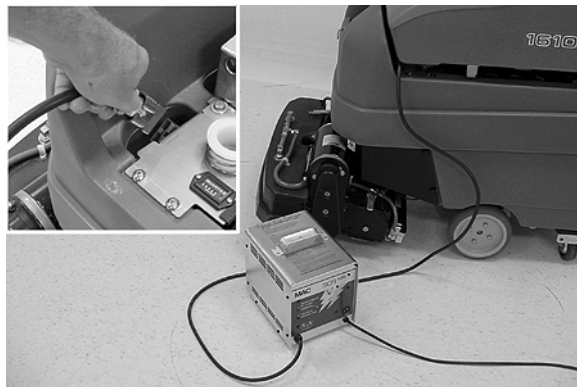

FIG. 31
6. Recharge the batteries (Figure 31). See CHARGING BATTERIES.